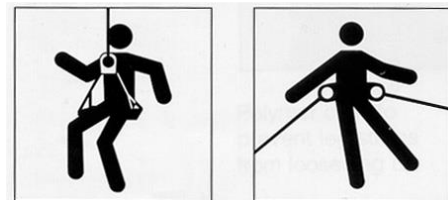

Fig. 1
- Use these products for positioning and suspension only. **Not Intended for Fall Arrest.** (see Fig. 1).